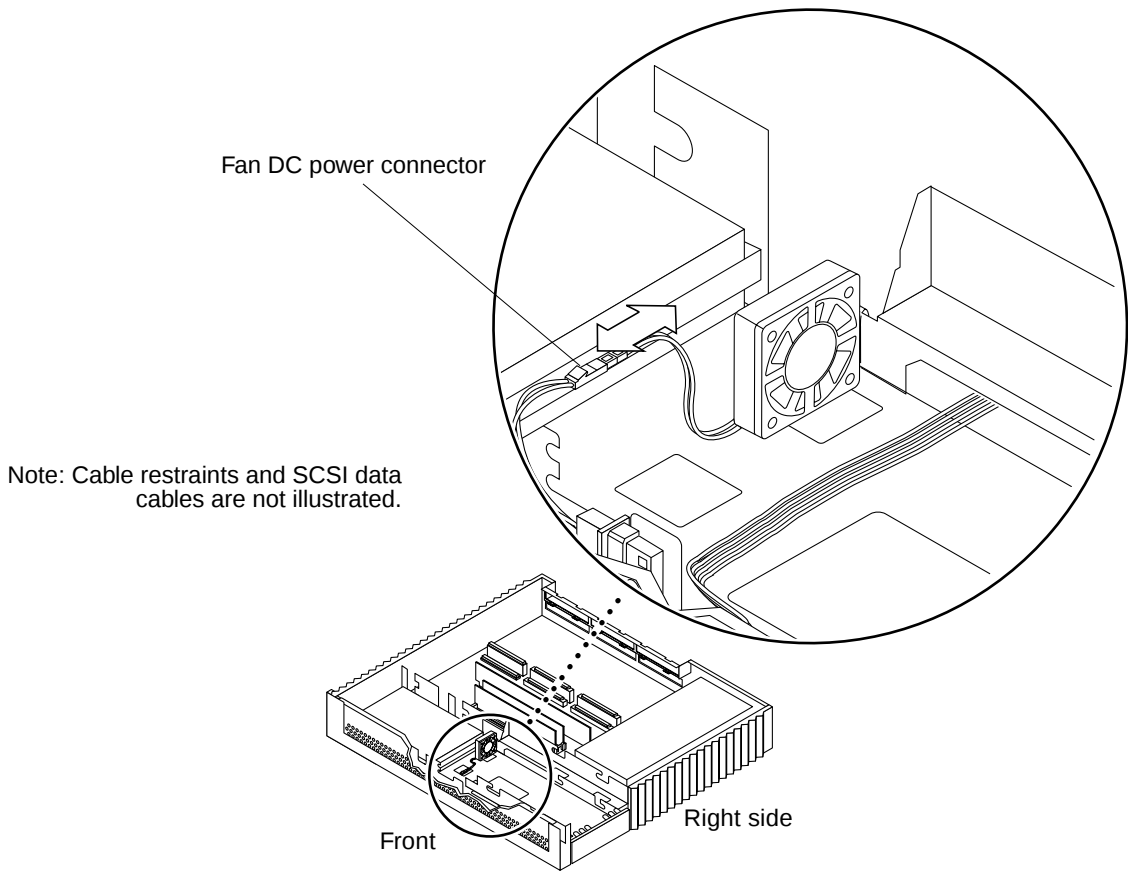

FIGURE 8-10 Disconnecting the Fan DC Power Connector
- 3. Disconnect the fan DC power connector (FIGURE 8-10).**